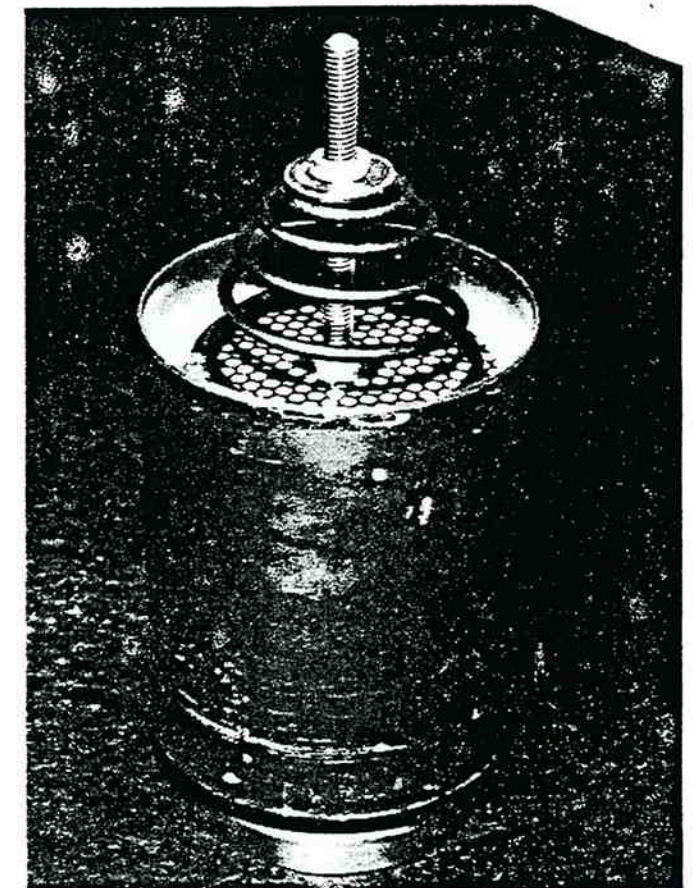

Figure 4-47. Desiccant Cartridge.
1. Refer to figure 4-47. Carefully remove the lock nut on top of the desiccant sealing plate. (The plate is spring loaded; however, the spring load is completely relieved when the nut is removed.)